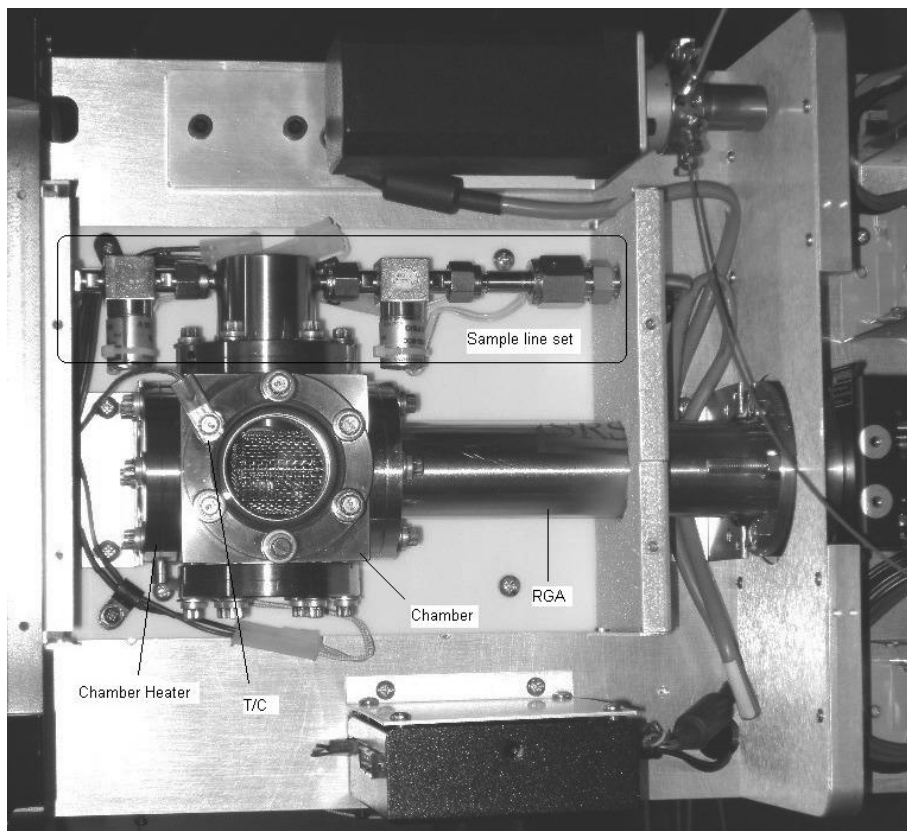

Figure 1-5a. Top Front Components
In Fig. 1-5a, the main chamber is shown. It consists of a sample line set, a cubic chamber, an RGA analyzer, a chamber heater (CHA), and a thermocouple. The sample line set is composed of 1/8"-UltraTorr connector, sample valve (SV), 40  $\mu$ m pinhole port, bypass valve (BV), and bypass line. The sample line set, the RGA analyzer, and the chamber heater connect at a 2.75" cubic chamber as shown in Fig. 1-5a.